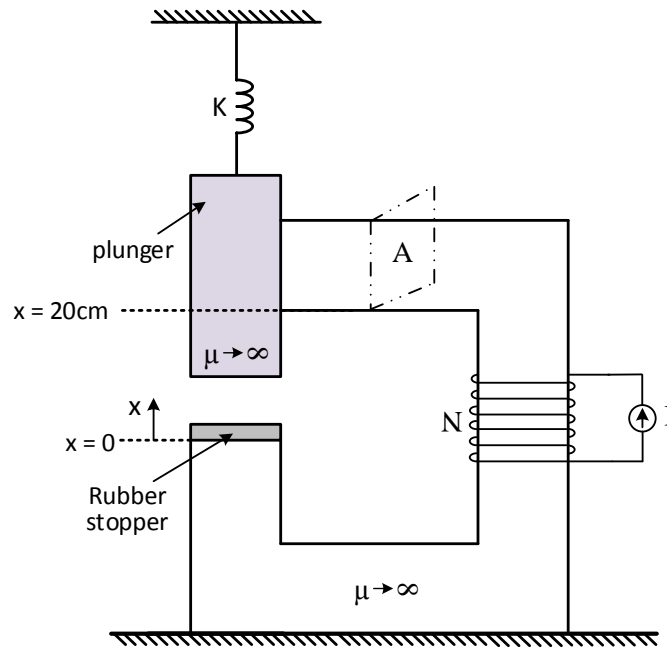

Figure 2: Electromechanical Energy Conversion Device
Q.2. Consider the electromechanical energy conversion device shown in Figure 2. The core can be assumed to have infinite permeability and it is fixed mechanically. The plunger core can also be assumed to be infinitely permeable and it can move vertically in a frictionless surface. The plunger has a mass of 20 kg. Rubber stopper is a non-magnetic material and its thickness is 1 cm. The spring balance is at $x = 10$ cm.